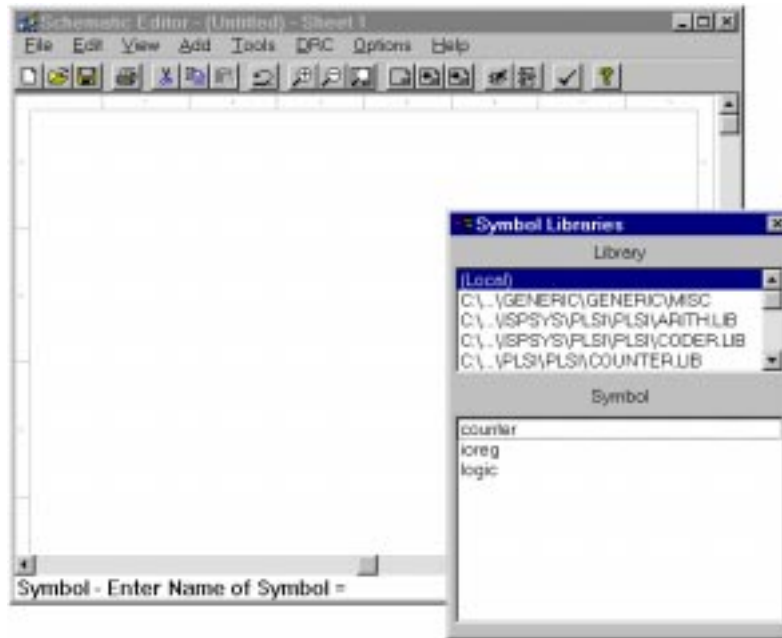

Figure 3-55. Schematic Editor with Symbol Libraries Dialog Box
2. Add the symbol for the schematic you created earlier. Select **Add** ⇒ **Symbol**. The Symbol Libraries dialog box appears with the Local library selected. The symbols display in the Symbols text box (Figure 3-55). Select the symbol you need to add and place it on your schematic.
5. A symbol is added to your Local library and the symbol is attached to your cursor. Place the symbol in the proper position of the symbol you have already added. Click with the right mouse button to place the symbol and to display the Symbol Libraries dialog box (Figure 3-55) again. Close the dialog box.